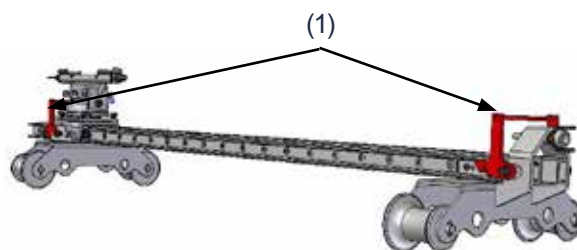

Fig 67.
4. Lock the handles (1) Fig 67 to secure the slide carriage in position.